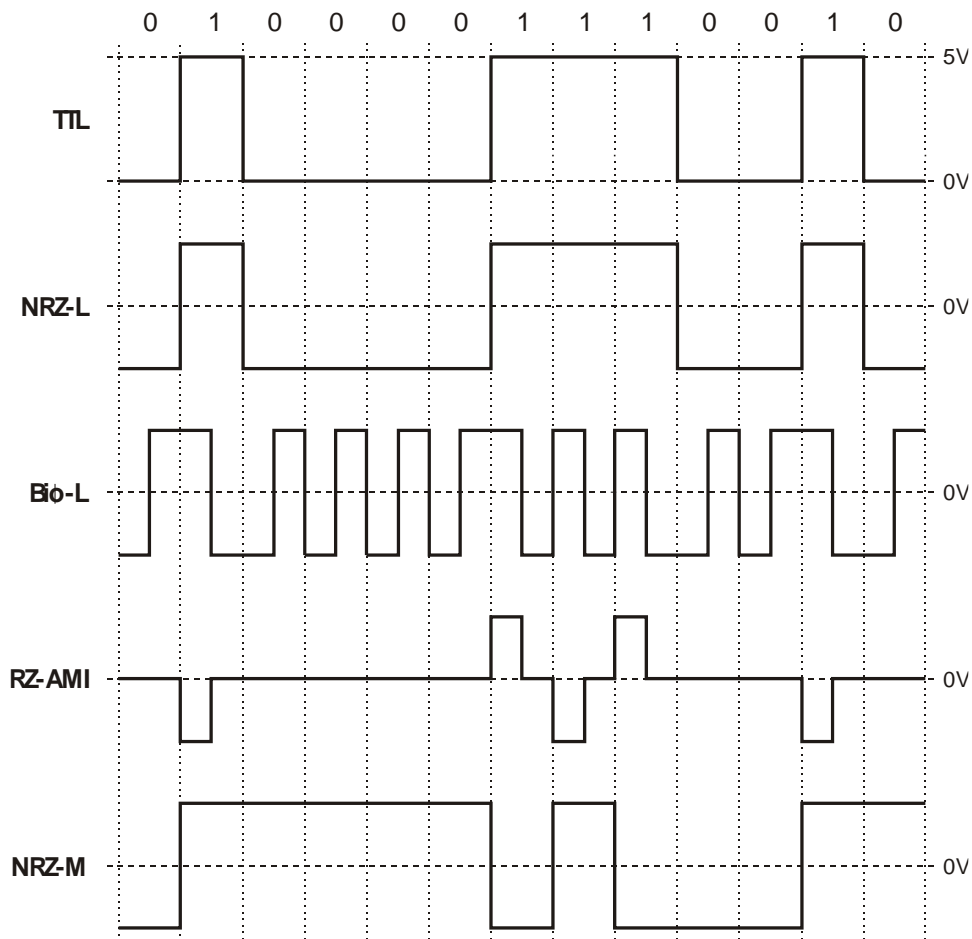

Figure 1
- **Non-return to zero – level (bipolar) (NRZ-L):** As you can see from Figure 1 on the next page, this code is a simple scale and level shift of the original digital signal.
- **Bi-phase – level (BiΦ-L also known as Manchester code):** Figure 1 shows that this code changes state from +V to –V in the middle of the bit period for all logic-1s and changes from –V to +V in the middle of the bit period for all logic-0s. For consecutive bits with the same logic level, the voltage must invert after half a bit length in order to satisfy this rule for the next bit.
- **Return to zero – alternate mark inversion (RZ-AMI):** Figure 1 shows that this code uses 0V to represent logic-0 and a half-bit pulse to represent logic-1. Importantly, the polarity of the pulses alternates for every successive logic-1 (even if they're not consecutive bits).
- **Non-return to zero – mark (bipolar) (NRZ-M):** Figure 1 shows that this code changes state for each new logic-1 and doesn't change state for any logic-0s.